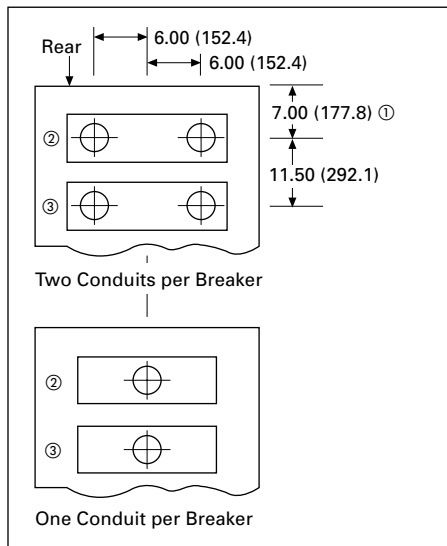

Figure 5.1-34. Primary Conduit Locations for Stacked Breakers
- ① Power cable entrance area. Refer to **Figure 5.1-34** for typical conduit locations. Refer to shop drawings for order specific locations.
- ② Power cable entrance area. Refer to **Figure 5.1-34** for typical conduit locations. Refer to shop drawings for order specific locations.
- ③ Recommended minimum clearance to rear of VacClad-W.
- ④ Floor steel, if used, must not exceed this dimension under VacClad-W.
- ⑤ Anchor locations: 5A and 5B for seismic applications, 5A only for non-seismic application. For indoor, use 0.5-inch (12.7 mm) bolts or weld.
- ⑥ Station ground connection provision.
- ⑦ Secondary conduit space: All—maximum of 1.00-inch (25.4 mm) projection.
- ⑧ Minimum clearance to LH side of VacClad-W. Minimum clearance to RH side of the switchgear: 6.00 inches (152.4 mm).
- ⑨ Finished foundation surface shall be level within 0.06-inch (1.5 mm) in 36.00 inches (914.4 mm) left-to-right, front-to-back, and diagonally, as measured by a laser level.
- ⑩ Minimum clearance to front of VacClad-W.